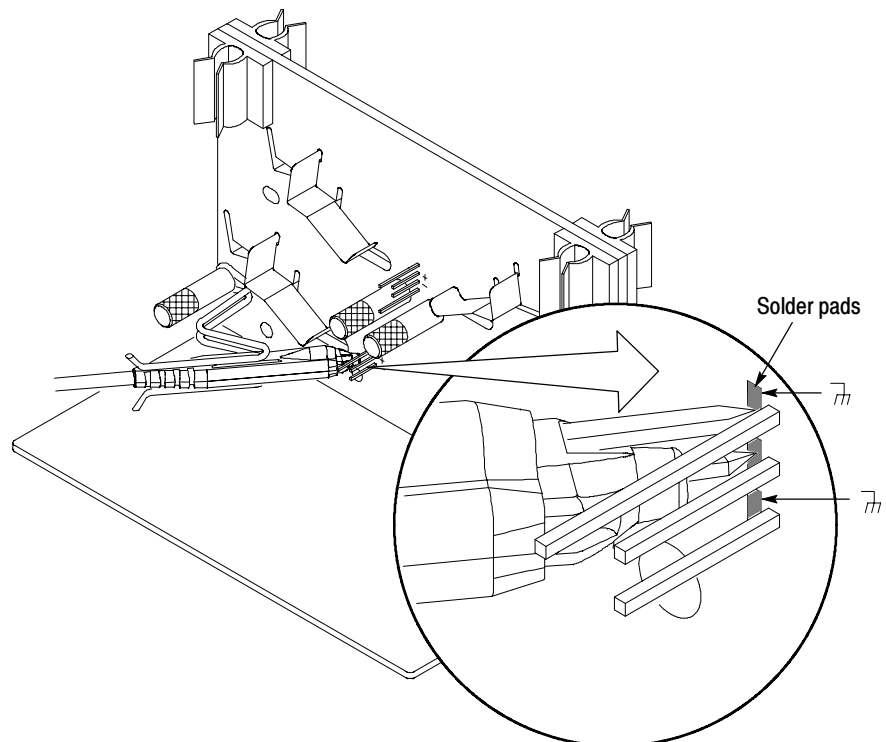

Figure 15: P6249, P7240 or P7260 with tips
4. Position the probe tips to the solder pad locations with the appropriate polarity. See Figure 15 on page 17.